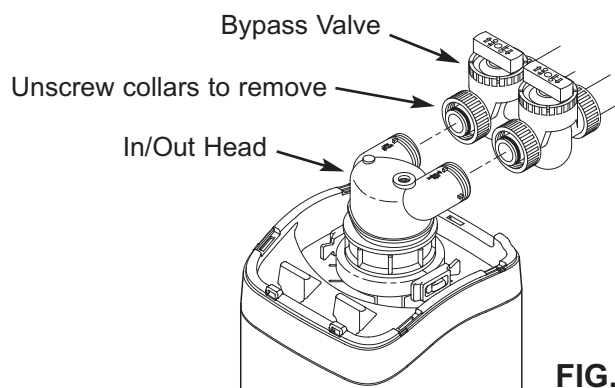

FIG. 9
2. Slowly loosen the installation collars between the bypass valve and in/out head (See Fig. 9), allowing pressure to escape from system.